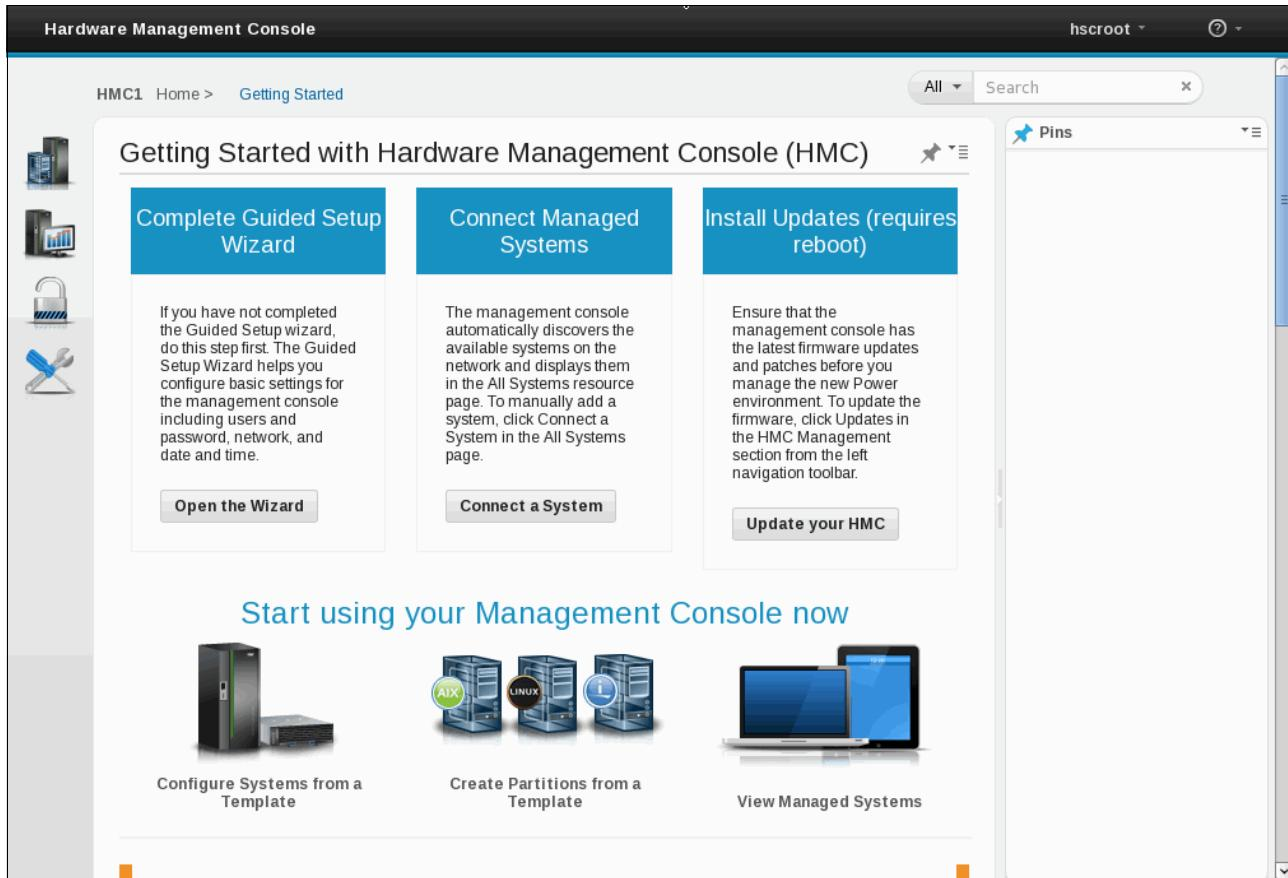

Figure 3-109 Getting started HMC panel
38.The Getting Started panel opens (Figure 3-109). From here you can start managing with the HMC.